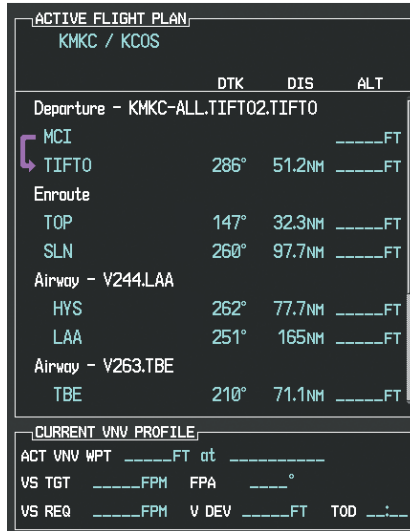

Figure 5-109 TOP Inserted into the Flight Plan
d) Press the **ENT** Key. TOP is inserted into the flight plan as in Figure 5-109.